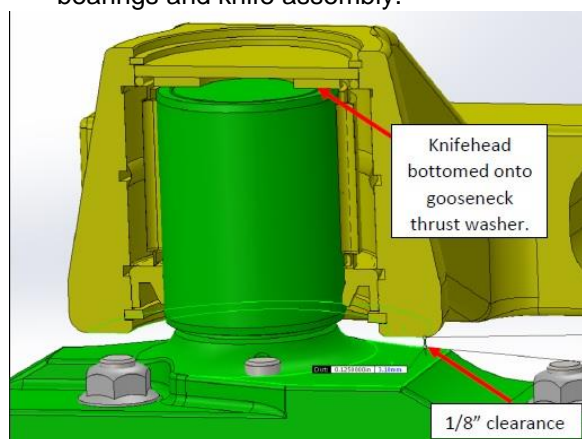

Figure 104
10. Image showing the knife head fully installed onto knife head. Roughly 1/8" clearance between bottom of knife head and face of knife head. Figure 104